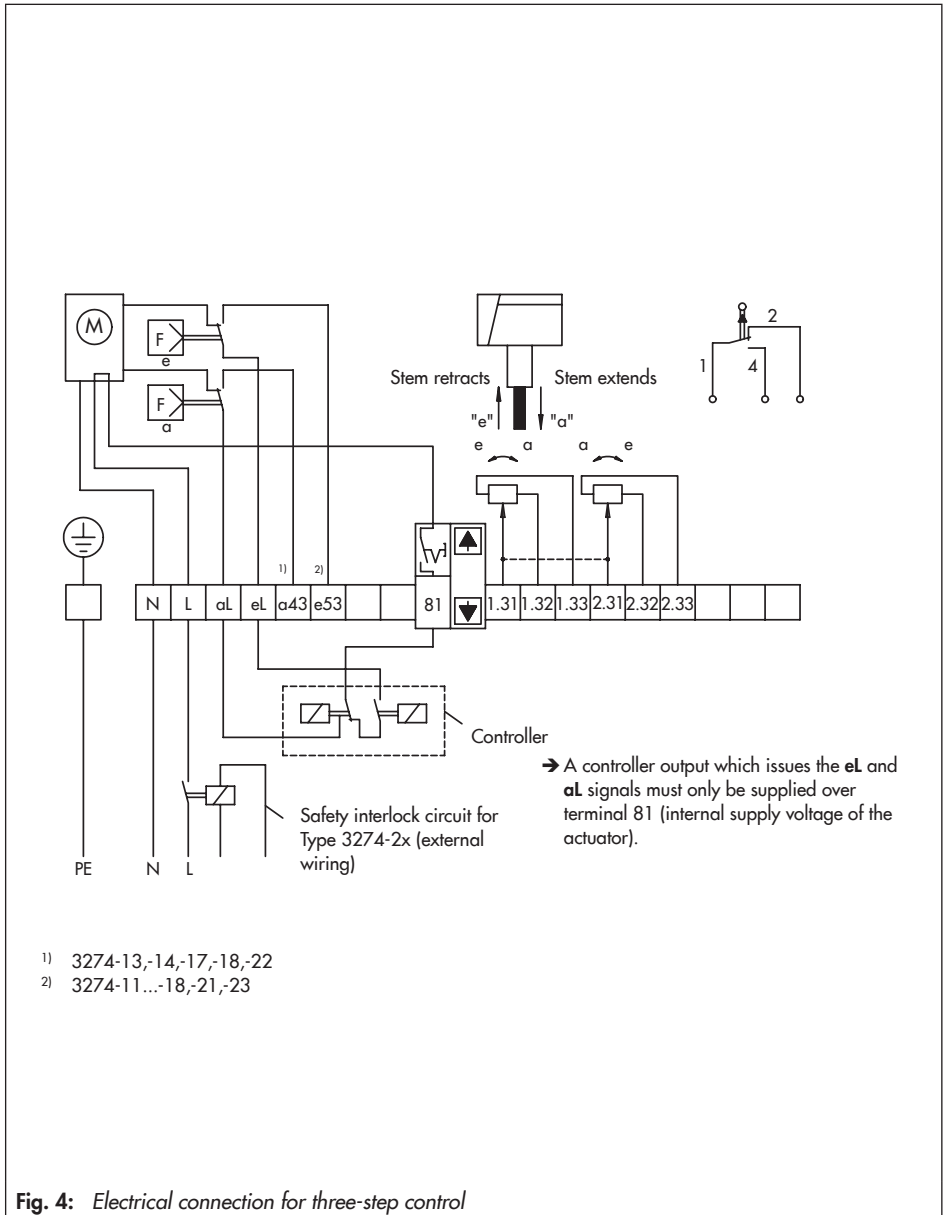
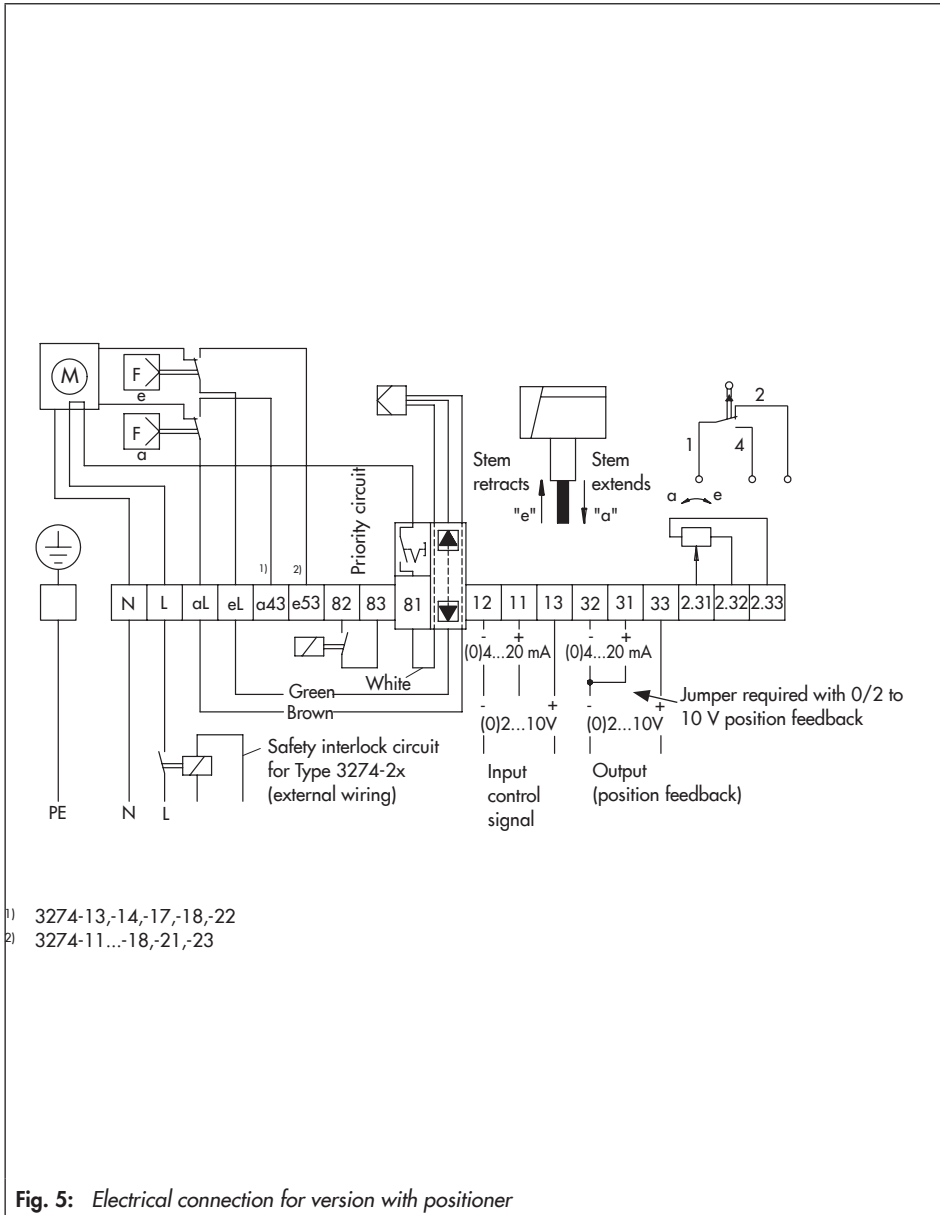
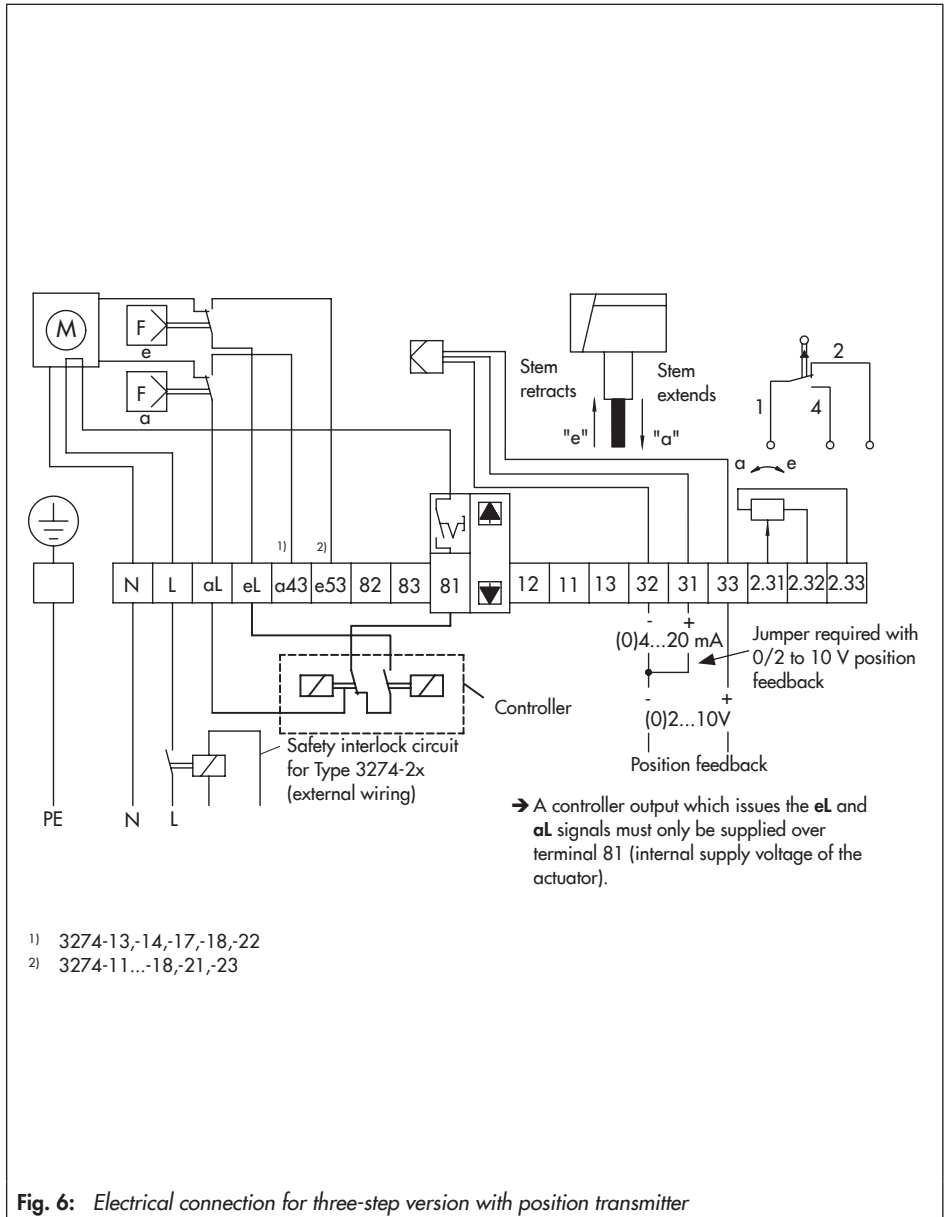

Fig. 4: Electrical connection for three-step control
Fig. 5: Electrical connection for version with positioner
Fig. 6: Electrical connection for three-step version with position transmitter
- Unscrew the side housing cover. Guide the cables through the cable glands on the housing to the terminals and connect them (see Fig. 4 to Fig. 6 or circuit diagram stuck inside the housing cover).
The wiring diagrams (Fig. 4 to Fig. 6) apply to the accessories as well.
For the version with positioner (Fig. 5) and position transmitter (Fig. 6), output signals, which are proportional to the valve travel, can be provided at the terminals 31, 32, 33 to be used for position feedback (signal increases as the actuator stem retracts).